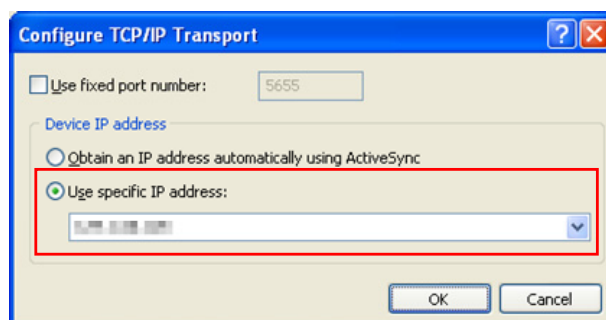

Figure 5.33
6. Click **Transport:** to access **Configure...** and set up **Device IP address** as shown in Figure 5.33.